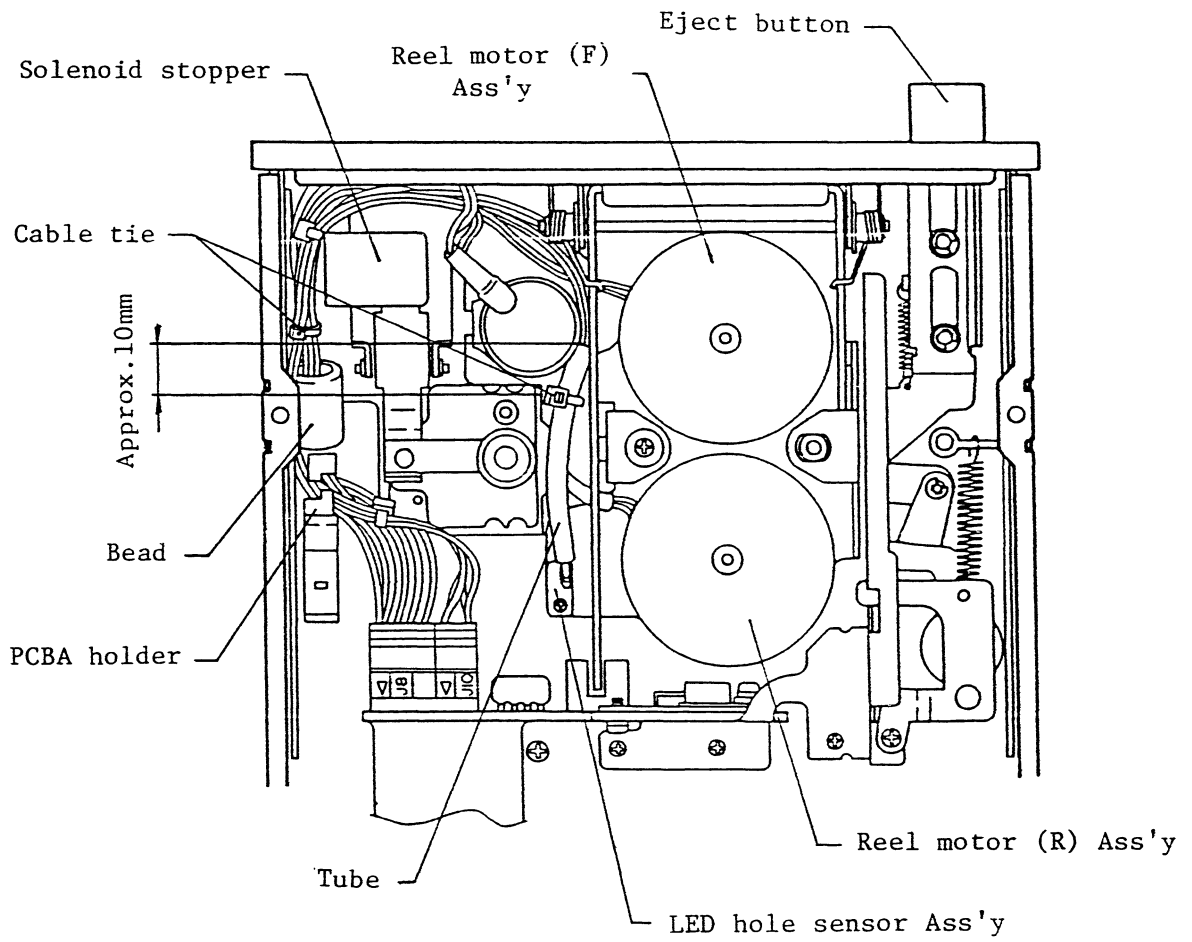

Fig.409 Cable treatment within chassis
- (2) Perform cable forming in accordance with Fig. 409.
- (3) Clamp the cables of the reel motor (R) Ass'y and LED hole sensor Ass'y from the outside of the tube with the cable tie at the position which is kept approx. 10 mm away from the end of the tube.